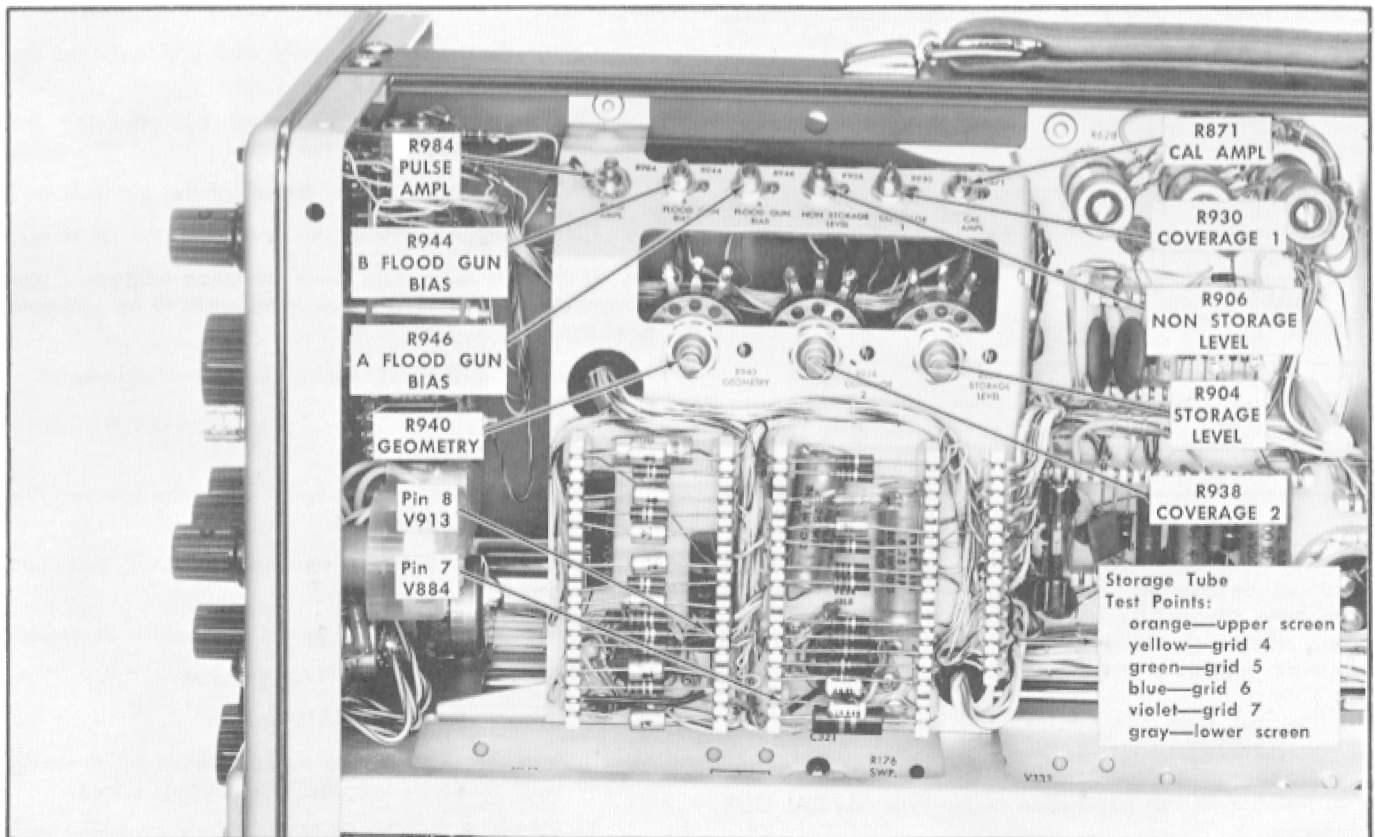

Fig. 5-5. Storage circuit and calibrator test points and adjustments on right side of Type 564.
- d. Adjust R871 (CAL AMPL) for a meter reading of +100 volts. The location of R871 is shown in Fig. 5-5.
c. Adjust R940 (GEOMETRY) for a meter reading of +180 volts. The location of R940 is shown in Fig. 5-5.
b. Turn R944 (B FLOOD GUN BIAS) fully clockwise, then turn it counterclockwise until the screens are uniformly bright. Do not adjust R944 counterclockwise any farther than necessary. See Fig. 5-5 for the location of R944.
a. Connect the dc voltmeter (300-volt scale) between ground and pin 8 of V913 (lower storage-target backplate). See Fig. 5-5.